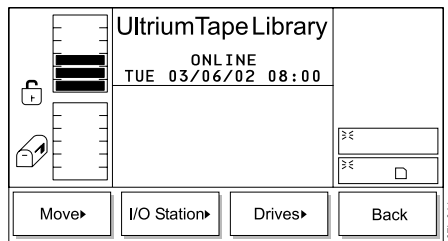

Figure 144. Command Menu
1. From the Main Menu's initial screen, press the button below the **Command** softkey. The Command Menu displays (see Figure 144).